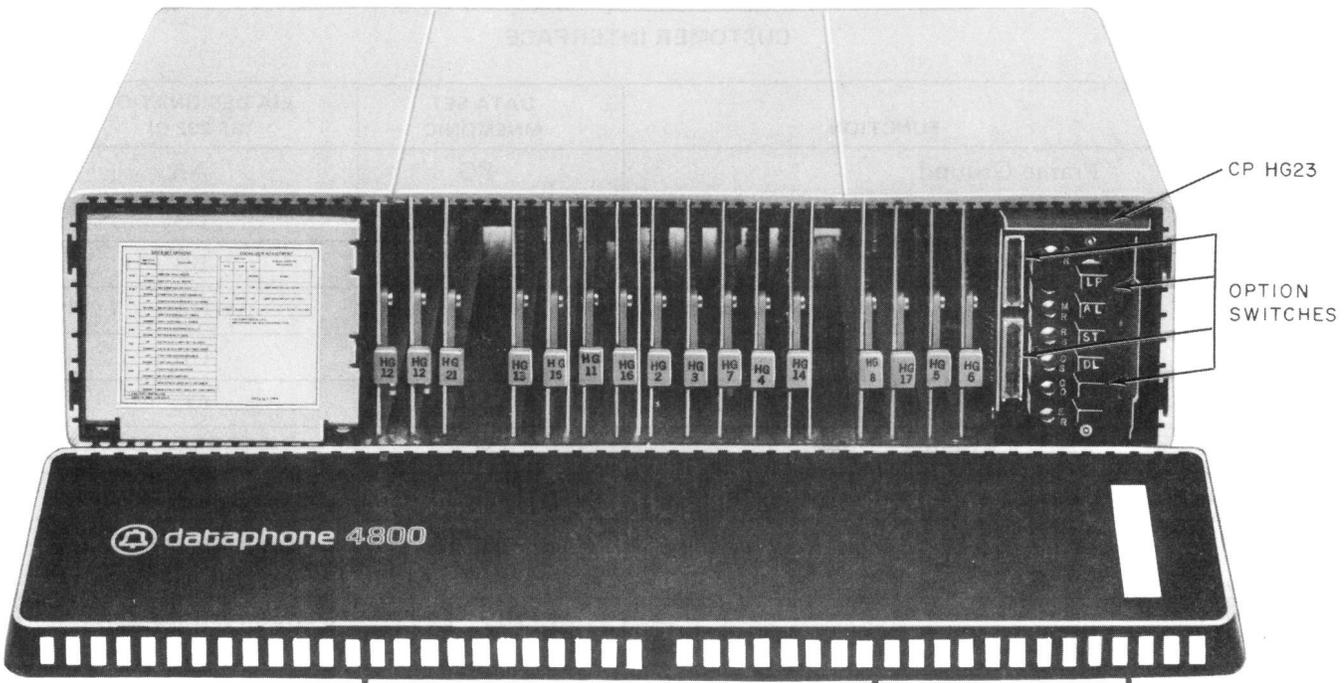

Fig. 3—DS 208A-L1A—Front View With Cover Removed
2.08 Figure 3 shows a front view of DS 208A-L1A with the plastic cover removed, while Fig. 4 shows DS 208A-L1B.